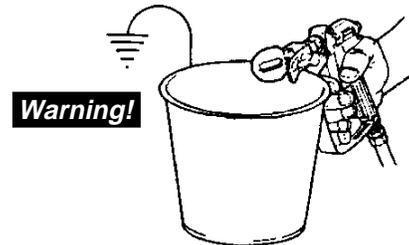

Figure 13. Pump until clean solvent appears.
- 6) Unlock trigger, and with spray tip still removed and starting with minimum pressure, aim gun into paint container and hold trigger open until paint flow stops and solvent flow just begins. Release trigger. Aim gun into solvent pail/hopper and **circulate solvent** for about two minutes. To reduce splashing, direct the fluid stream along inside of bucket at a side angle and well above the fluid level (or submerge the tip in the solvent). Release trigger. Point spray gun into an empty waste bucket and spray at least 1 gallon of fluid into it. (see figure 13).